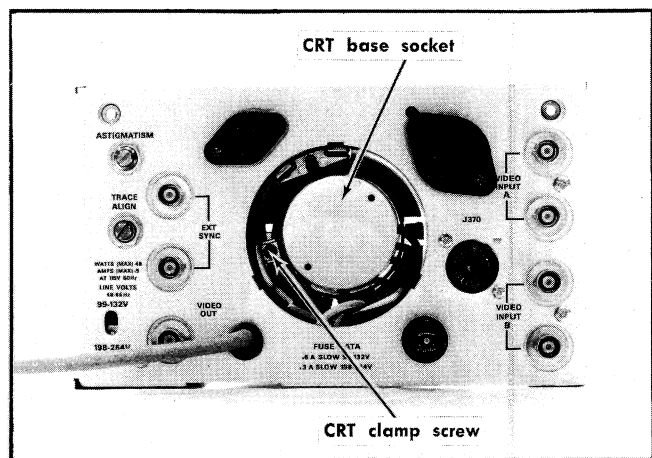

Fig. 4-10. Location of CRT clamp screw.
7. Turn the CRT clamp screw until the CRT will slide within the clamp. (See Fig. 4-10.)